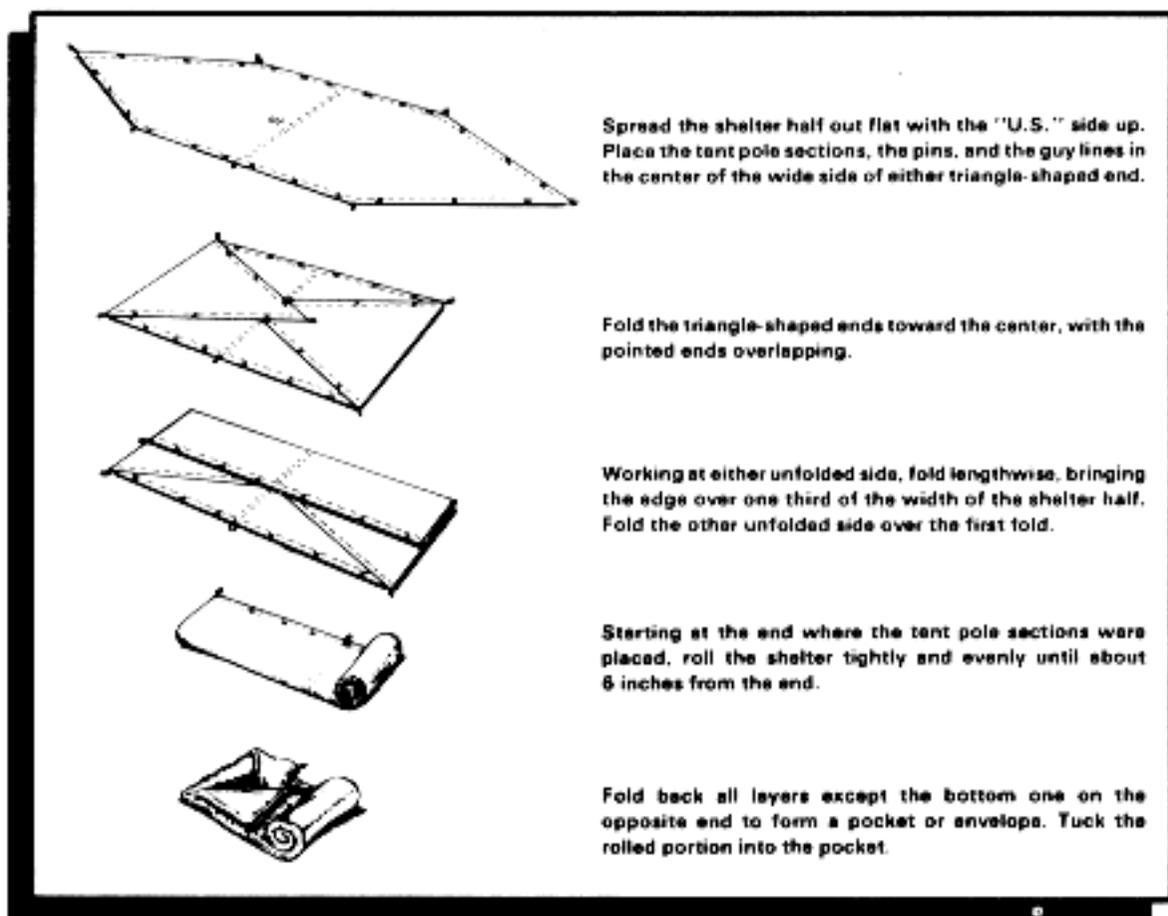

Figure 3-11. Folding the shelter half.
**Folding.** To fold the shelter half, see figure 3-11.